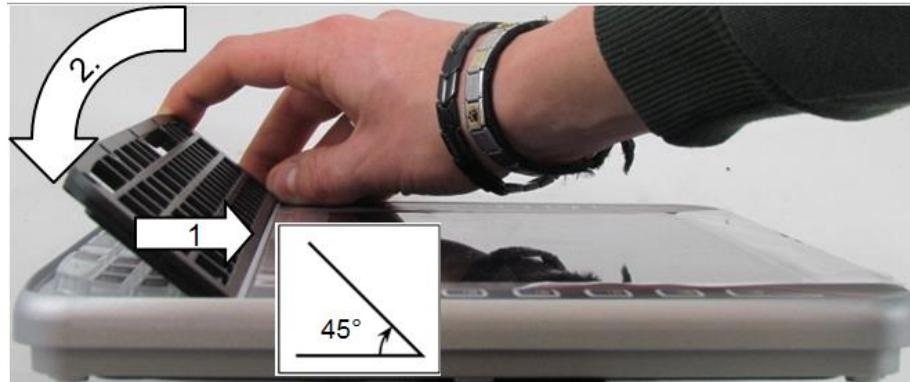

Fig. 16.5: Integrated keyboard: Attach keyboard grid
3. Place on the keyboard grid at a 45° angle, see Fig. 16.5.